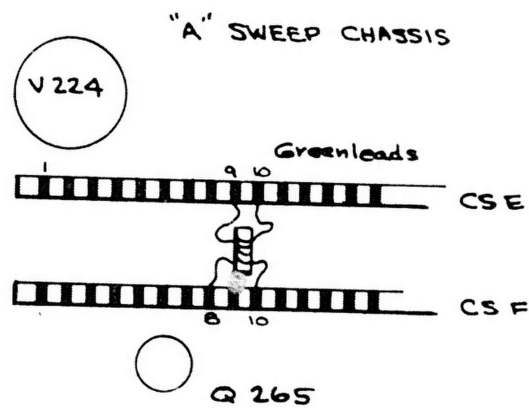

Fig. 2
- b) Replace T252 on the 'A' Sweep chassis between CSE-9/10 and CSF-8/10 with the TEFLON insulated transformer. Install the green leads in CSE-9/10 and the read leads in CSF-8/10. Refer to Fig. 2.